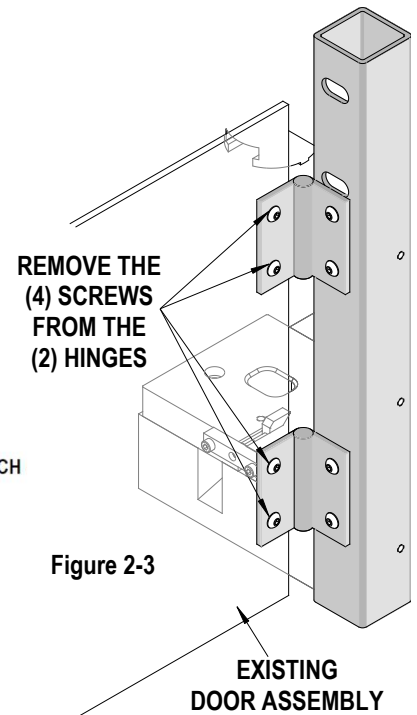

Figure 2-3
To remove the press guard door, open the door and remove the (4) screws from the door hinges. See Figure 2-3.